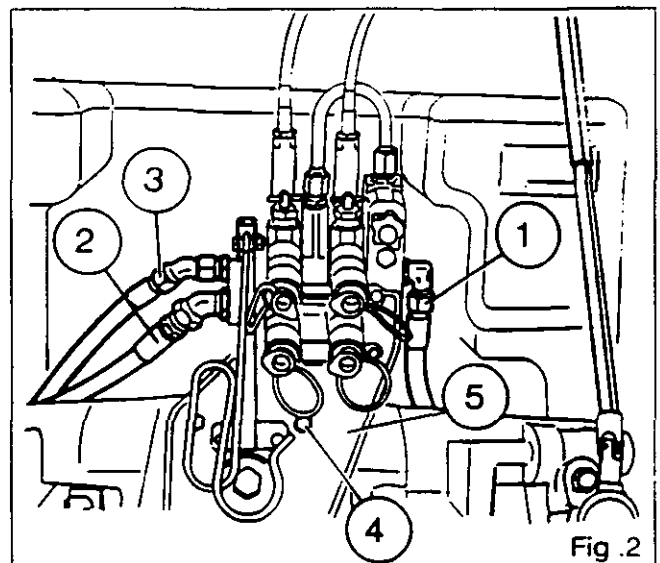

Fig. 2
4. Disconnect (Fig. 2):
- . the supply hose (1) to the spool valve
- . the supply hose (3) to the lift valve
- . the return hose (2).
5. Remove the bolts (4) for the spool valve support (5) (Fig. 2).